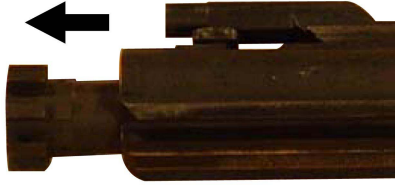

Figure 3-24. Bolt in Forward Position
- i. Pull bolt forward. Refer to Figure 3-24.